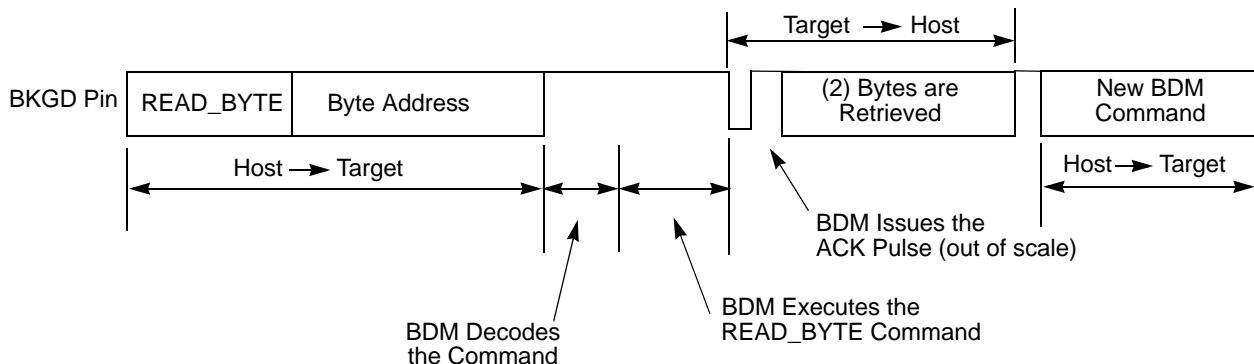

**Figure 61. Target Acknowledge Pulse (ACK)**
The hardware handshake protocol signals to the host controller when an issued command was successfully executed by the target. This protocol is implemented by a 16 serial clock cycle low pulse followed by a brief speedup pulse in the BKGD pin. This pulse is generated by the target MCU when a command, issued by the host, has been successfully executed (see Figure 61). This pulse is referred to as the ACK pulse. After the ACK pulse has finished: the host can start the bit retrieval if the last issued command was a read command, or start a new command if the last command was a write command or a control command (BACKGROUND, GO, GO\_UNTIL(171) or TRACE1). The ACK pulse is not issued earlier than 32 serial clock cycles after the BDM command was issued. The end of the BDM command is assumed to be the 16th tick of the last bit. This minimum delay assures enough time for the host to perceive the ACK pulse. Note also that, there is no upper limit for the delay between the command and the related ACK pulse, since the command execution depends upon the CPU bus, which in some cases could be very slow due to long accesses taking place. This protocol allows a great flexibility for the POD designers, since it does not rely on any accurate time measurement or short response time to any event in the serial communication.
Differently from the normal bit transfer (where the host initiates the transmission), the serial interface ACK handshake pulse is initiated by the target MCU by issuing a negative edge on the BKGD pin. The hardware handshake protocol in Figure 61 specifies the timing when the BKGD pin is being driven, so the host should follow this timing constraint in order to avoid the risk of an electrical conflict on the BKGD pin.